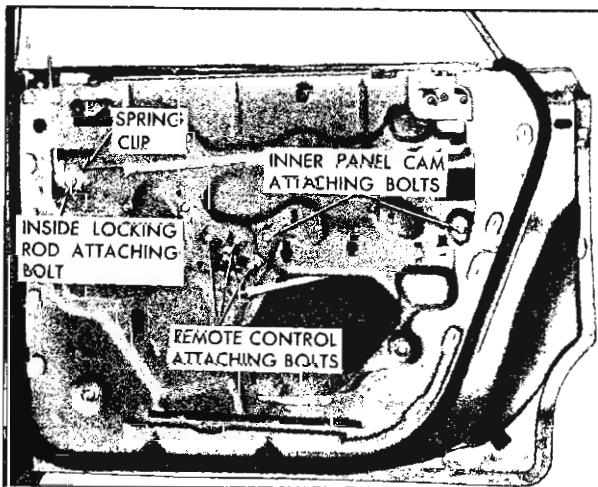

Fig. 48—Rear Door Hardware
1. Raise door window, remove door trim pad and detach inner panel water deflector sufficiently to expose inner panel cam attaching bolts (fig. 48).
5. Disengage rod from spring clip on door inner panel. Remove inside locking rod attaching bolt and remove assembly from door (fig. 48).
2. Remove remote control attaching bolts and remove control from connecting rod (fig. 48).